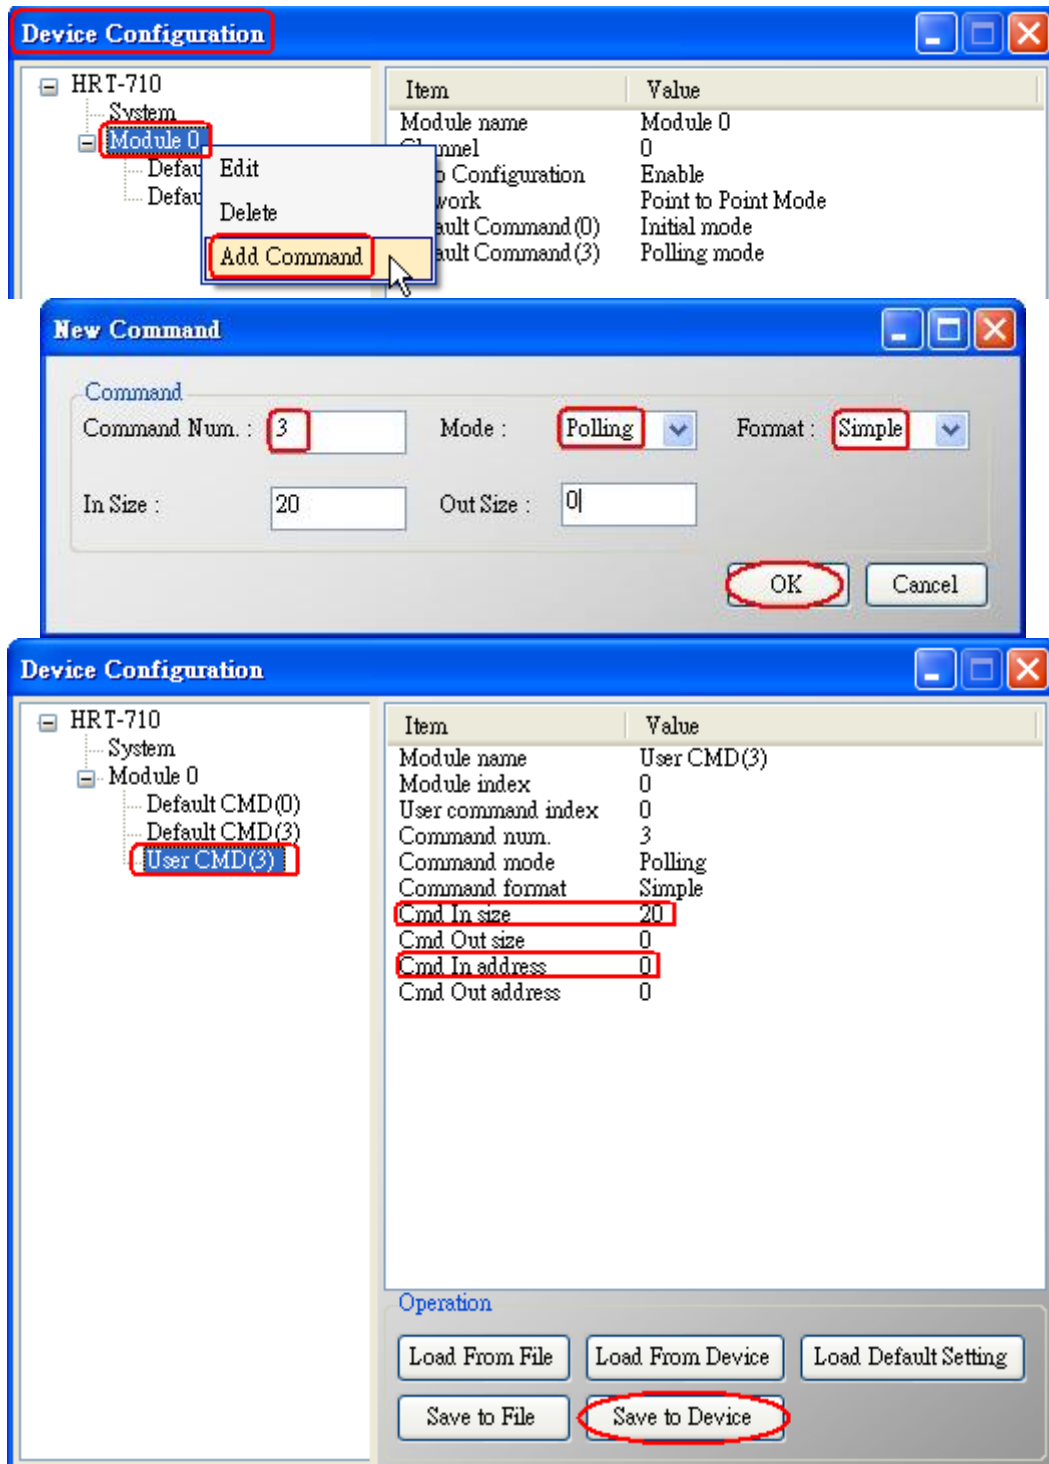

Figure 3-9 Add “User CMD(3)” to HRT-710
[1] Add “**User CMD(3)**” with “**Simple**” format and then click “**Save to Device**” to save the new HART device setting to HRT-710 like Figure 3-9. The mapped Modbus start address and length of User CMD(3) data can be found in “**Cmd In address**” and “**Cmd In size**” field. In the example, they are 0 and 20.